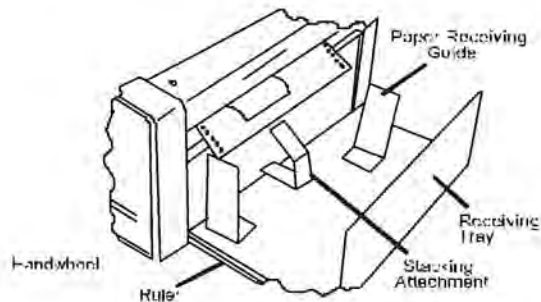

Figure 2
2. Setting The Receiving Tray: Extend the paper receiving tray to the same settings as the burst bar. A ruler is provided on the edge of the tray. Align rear of unit to the proper ruler number. See Figure 2. If forms being processed are longer than 51/2", place stacking attachment as shown in figure 2. located on page 2. Center attachment on forms exiting Burster. This will prevent forms from flipping over as they exit machine.